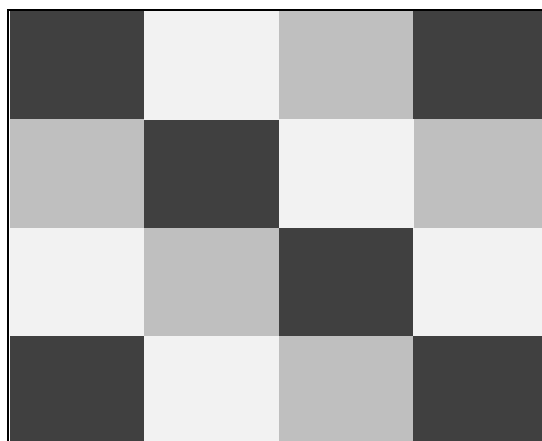

Figure 4-2. Display Test Pattern
2. Press **F3 CALIBRATE** . The display will show a dark test pattern, see Figure 4-2